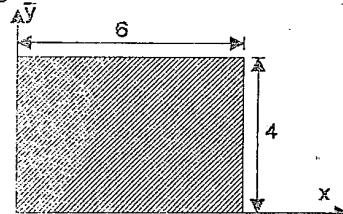

Fig.2
2. Use the 1 by 1 and 2 by 2 Gauss rule to approximate I over the rectangular region shown in Fig.2.  $I = \int \int \frac{1+x^2}{y}$